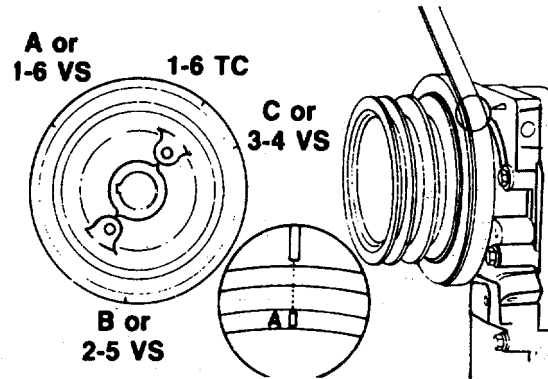

FIGURE 2-42. Aligning Pulley and Gear Pointer.
- (q) After adjusting the crossheads and the valves on cylinder No. 5, rotate the accessory drive; align the next valve set mark on the accessory drive pulley with the pointer on the gear cover (FIGURE 2-42).